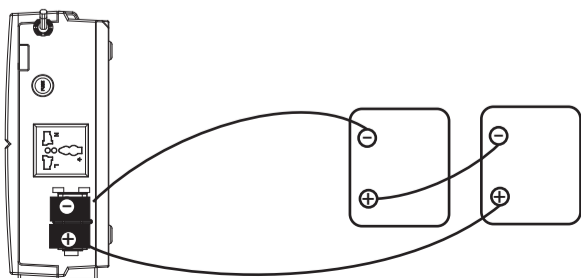

Fig. 2
2)Multiple batteries in series connection(Refer to Fig. 2):